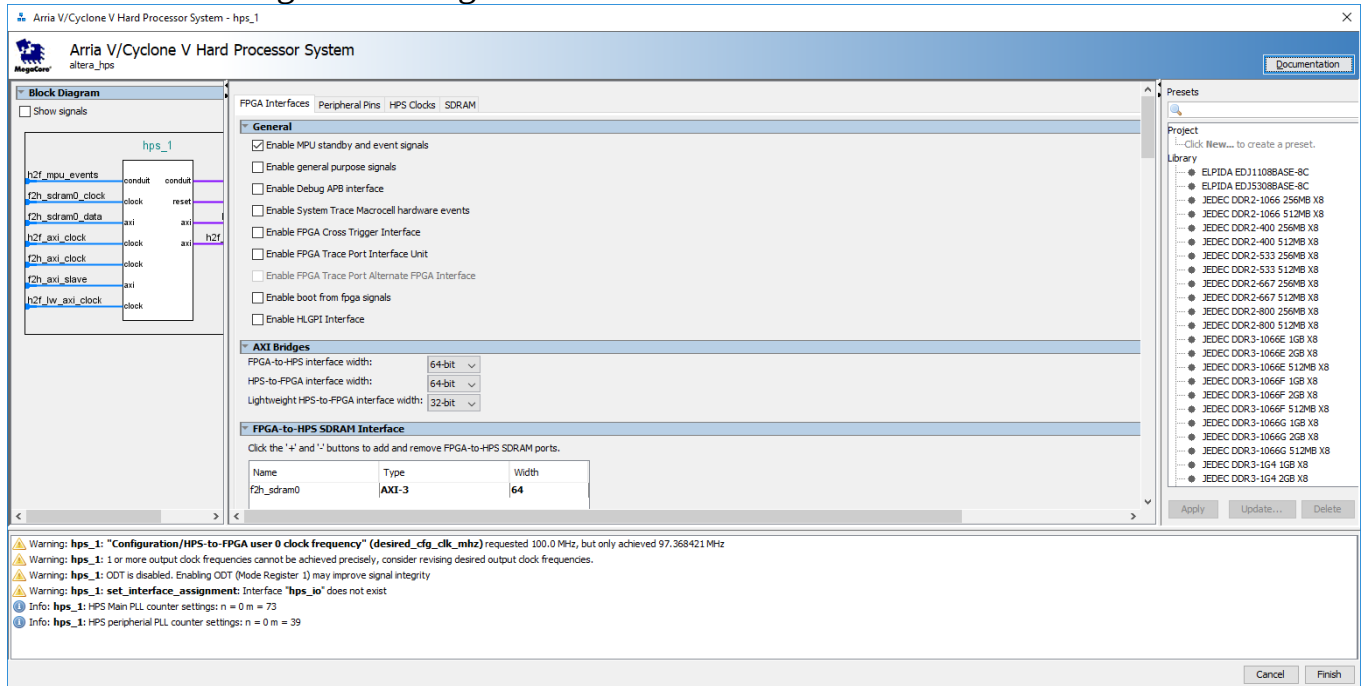

Figure 28 : Arria V/Cyclone V Hard Processor System
3. The default tab is FPGA Interfaces as shown in the Figure 28. Click the box according to the design.